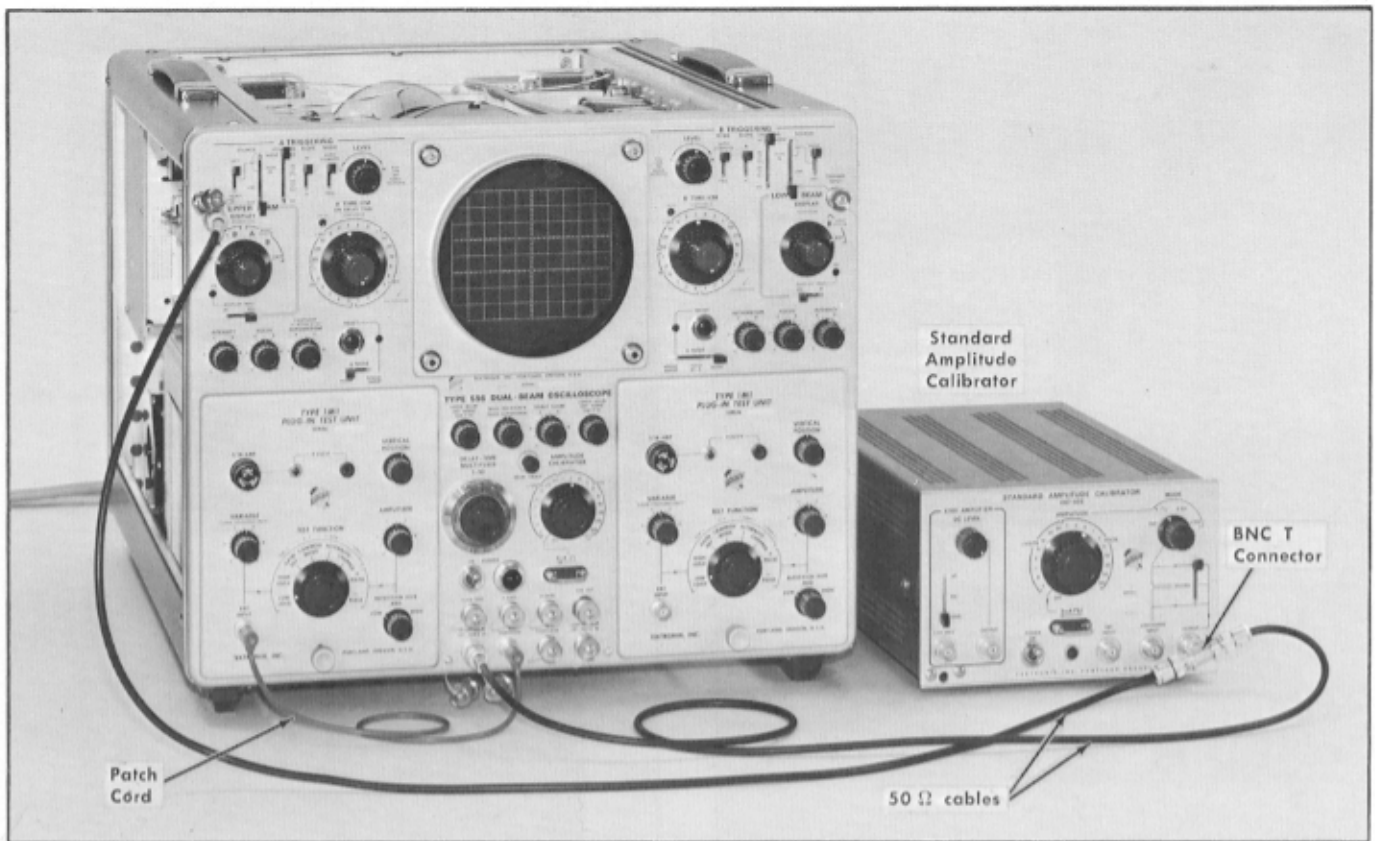

Fig. 6-52. Horizontal Amplifier Adjustment and Compensation.
- a. The initial test setup is shown in Fig. 6-52.